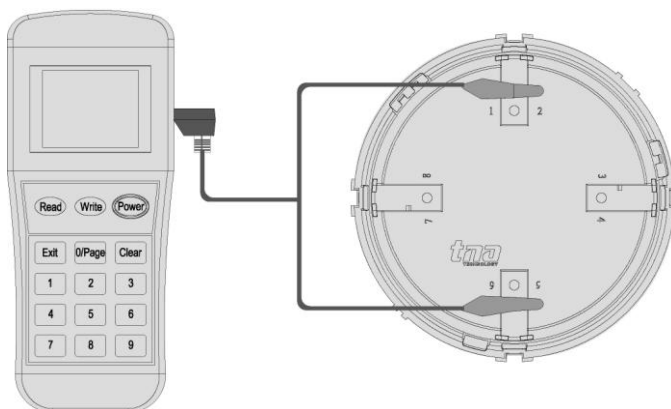

Figure 4
1. Connect the programming cable to Z1 and Z2 terminals (Figure 4). Press **“Power”** to switch on the unit.